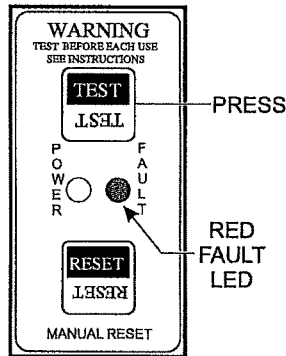

Figure 43. GFCI Module (Red/Fault LED ON)
- Next, press the **TEST** button on the GFCI module and verify that the green **POWER** LED turns **OFF** and the red fault LED turns **ON** (Figure 43).